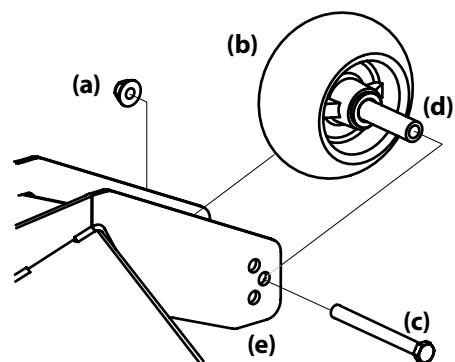

Figure 4-8
- Remove the lock nut (a) securing one of the front gauge wheel (b) hex screws (c) to the deck. Remove the front gauge wheel (b), hex screw (c) and spacer (d). See Figure 4-8.